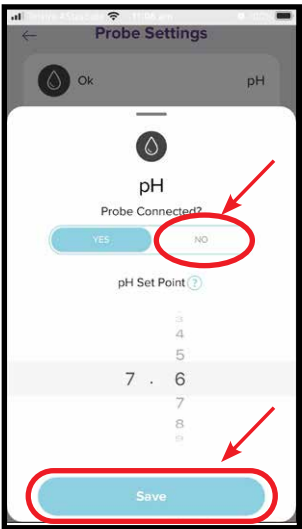

Figure 8.25
- From the pH adjustment menu, under “Probe connected”, press no, then press “save” (refer figure 8.25)